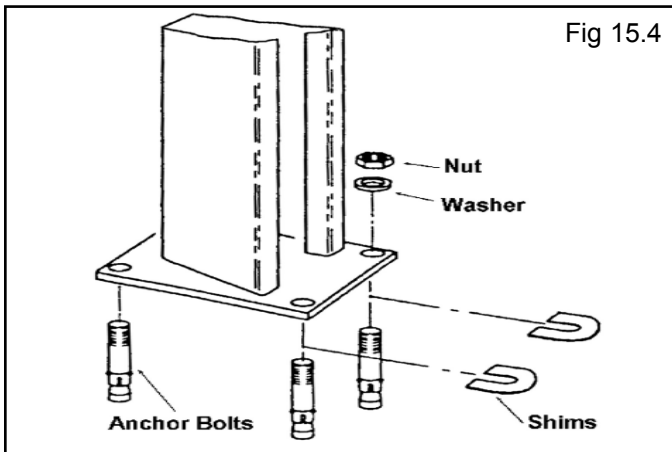

Fig 15.4
5. If shimming is required, insert the shims as necessary the base plate so that when the Anchor Bolts are tightened, the Columns will be plumb. (See Fig. 15.4)